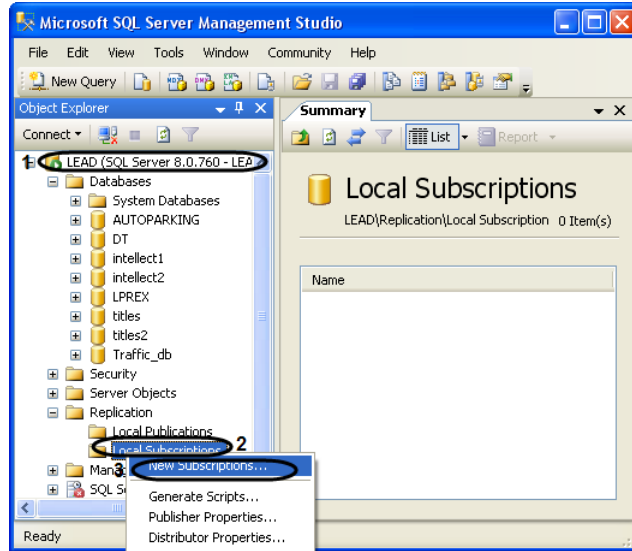

Fig. 9.2—2 New subscription
1. Connect to Publication server in the Microsoft SQL Server Management Studio, and then open the server node (Fig. 9.2—2).
2. Open «Replication» folder, and then click with a right mouse button over the «Local Subscriptions» folder (Fig. 9.2—2,2).
3. Select the «New Subscriptions» point in the opened contextual window (Fig. 9.2—2, 3).